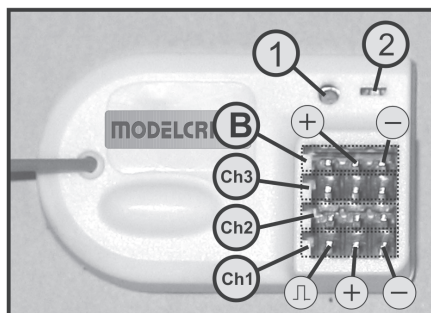

Figure 9
Switch on the transmitter and then the receiver. If the binding function is working correctly, the red LED indicator in the receiver (see figure 9, item 2) lights up. Verify correct receiver function and then switch the receiver off again.